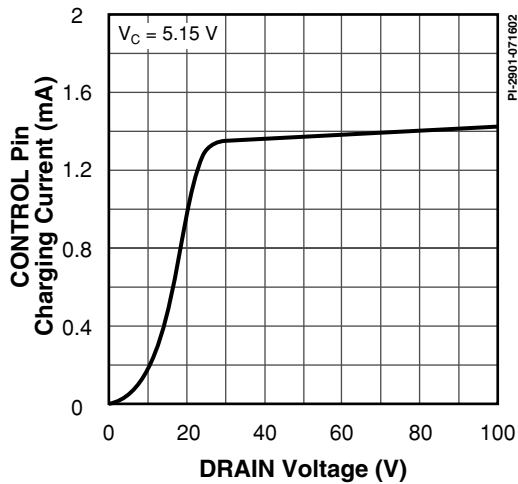

Figure 13. I_C vs. DRAIN Voltage.
- E. It is possible to start up and operate *LinkSwitch* at DRAIN voltages well below 36 V. However, the CONTROL pin charging current is reduced, which affects start-up time, auto-restart frequency, and auto-restart duty cycle. Refer to the characteristic graph on CONTROL pin charge current (I_C) vs. DRAIN voltage (Figure 13) for low voltage operation characteristics.